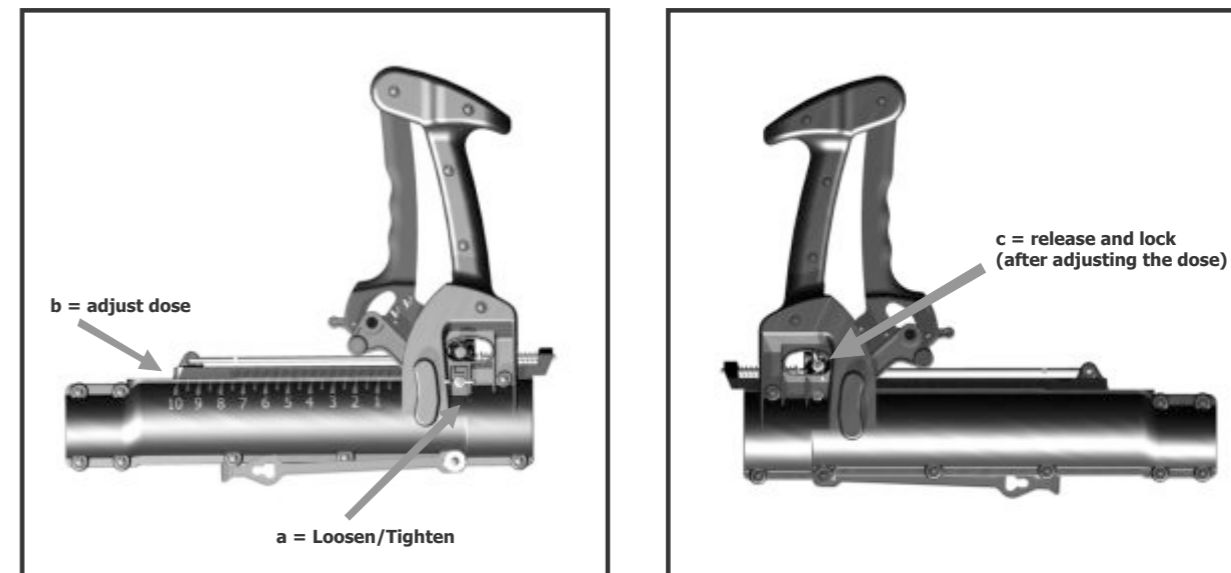

FIGURE 8 Form of adjusting for dose and directed applications (spot).
- b)** Place the equipment in the operating position in the operator's back and with the discharge to directed downwards (as shown in Figure 8) actuate the command trigger pointing to the collection container for at least 30 seconds;
In order to perform dose adjustments between 0.5 and 10, observe **Figure 8** and follow the steps below:
All the values found in tables 1 and 2 were obtained with the discharge set positioned at an inclination of 30° with respect to the soil. IN PRACTICAL TERMS, THIS MEANS POINTING THE DISCHARGE OUTLETS TO THE POINT OF YOUR NEXT STEP, AS SHOWN IN FIGURE 8 BELOW, AND THE APPLICATION WILL THEN TAKE PLACE IN THE OPTIMAL AREA.